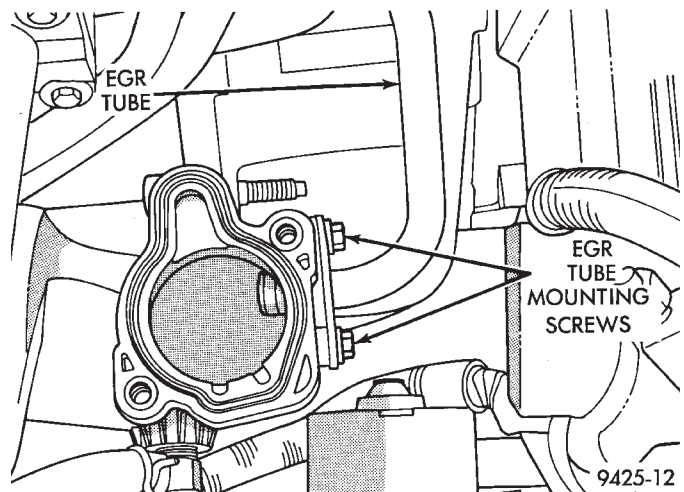

Fig. 10 EGR Tube Stud Bolts
- (1) Remove screws attaching EGR tube to intake manifold (Fig. 10).
- (2) Remove EGR tube to EGR valve screws.
- (3) Remove EGR tube. Clean gasket surface on the EGR valve. Wipe clean the grommet on the intake manifold.